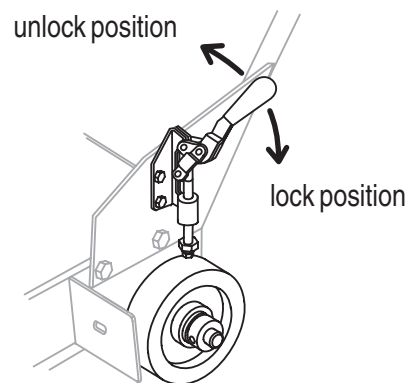

Figure 23. Wheel Clamp
9. Push the Wheel Clamp Levers downward to apply braking pressure to the wheels (Figure 23).